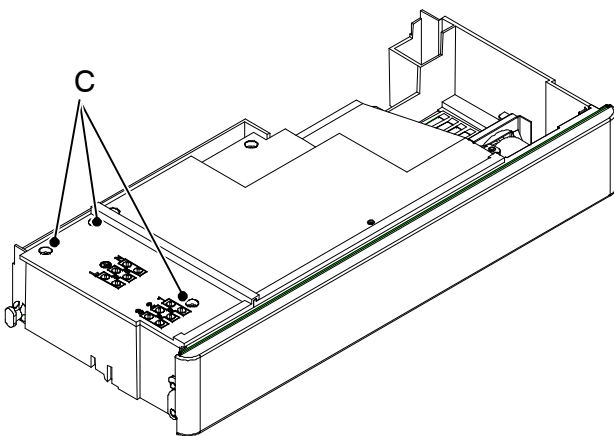

fig. 8.1
- 8 Loosen the screws C and remove the service panel (fig. 8.1).